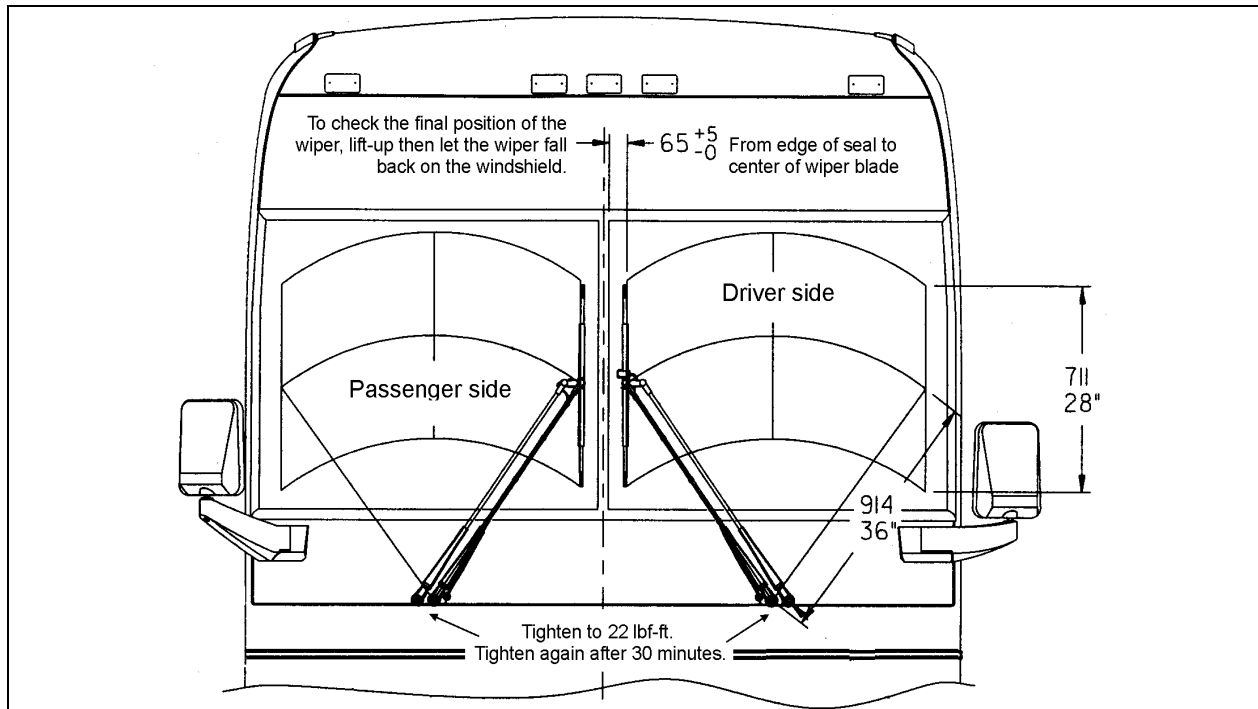

FIGURE 40: WIPER ARMS POSITIONING
1. Reinstall the wiper arms and position as shown in figure 40. Before positioning the wipers at their final position, tighten the nuts to 9 Ft-lbs (12 Nm) at first.